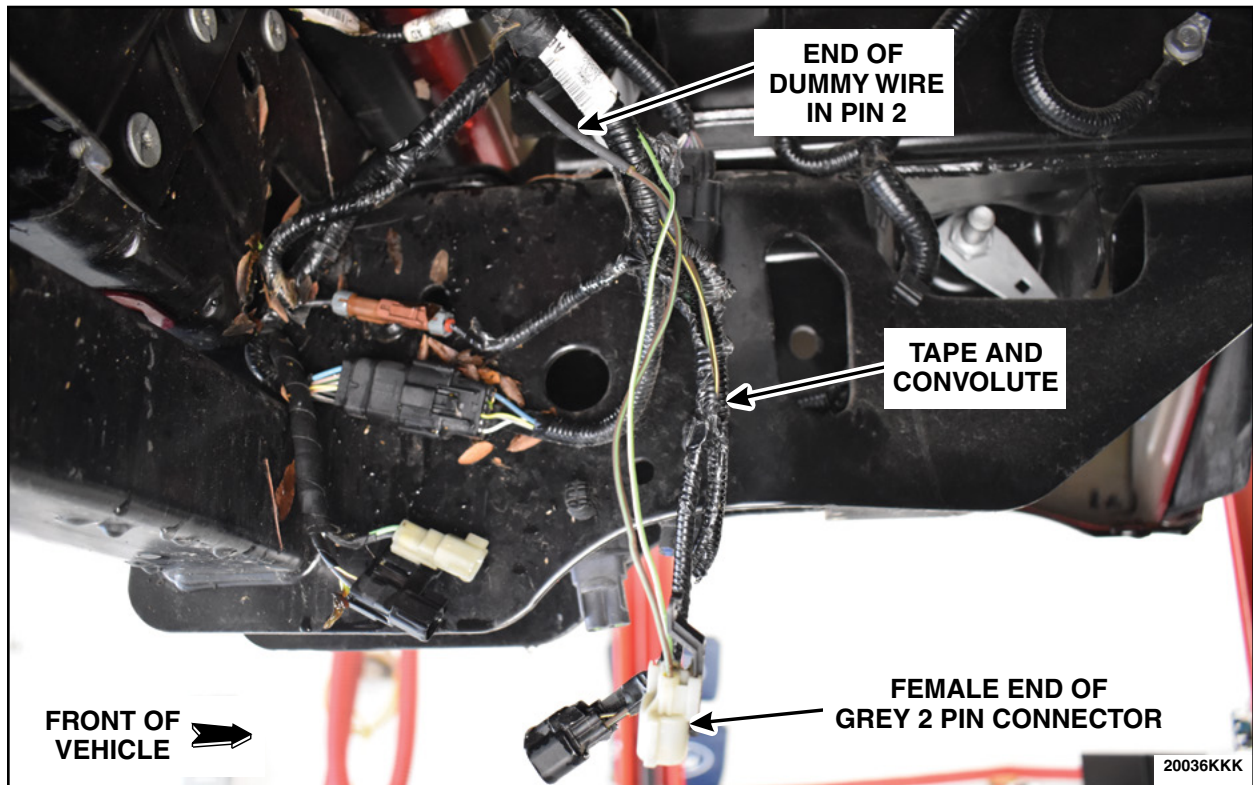

FIGURE 66
90. Remove the tape and convolute of the female side of the Grey 2 pin connector to expose the end of the dummy wire located in Pin 2. See Figure 66.